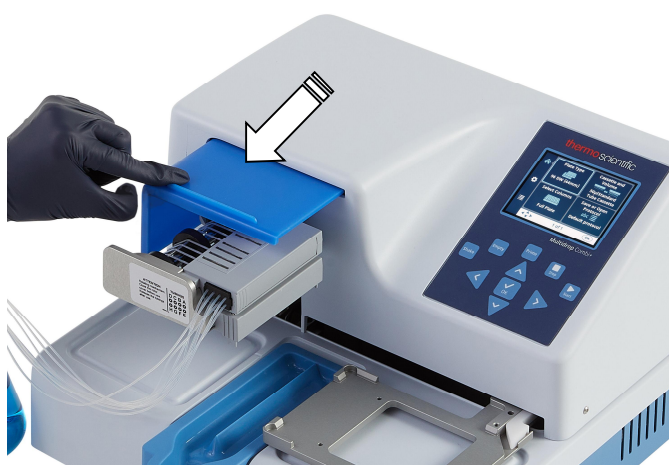

Figure 4-22. Pulling the rotor cover over the rotor
10. Pull the rotor cover over the rotor (Figure 4-22). A sensor controls that the cover is properly placed over the pump rotor.